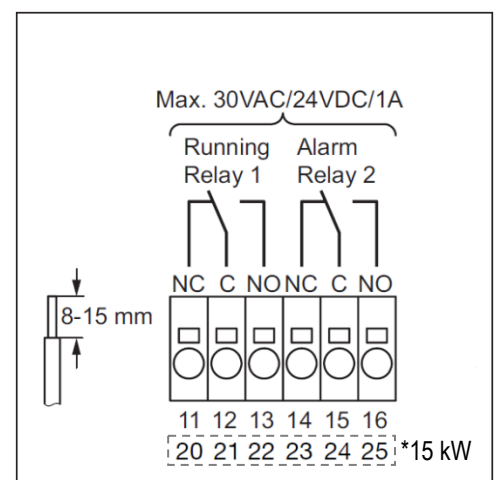

Fig. 9-7: Terminal overview
On NI-DV with 15 kW nominal relay terminals are numbered differently (see \* in fig 9.7) in comparison to all other sizes of NI-DV. This shall be considered when referring to following functional description.
- Relay 1 (terminals 11, 12, 13) can be used to send an operating signal to an external device (see fig. 9-7).
- Relay 2 (terminals 14, 15, 16) can be used to send an alarm signal to an external device (see fig.9-7).